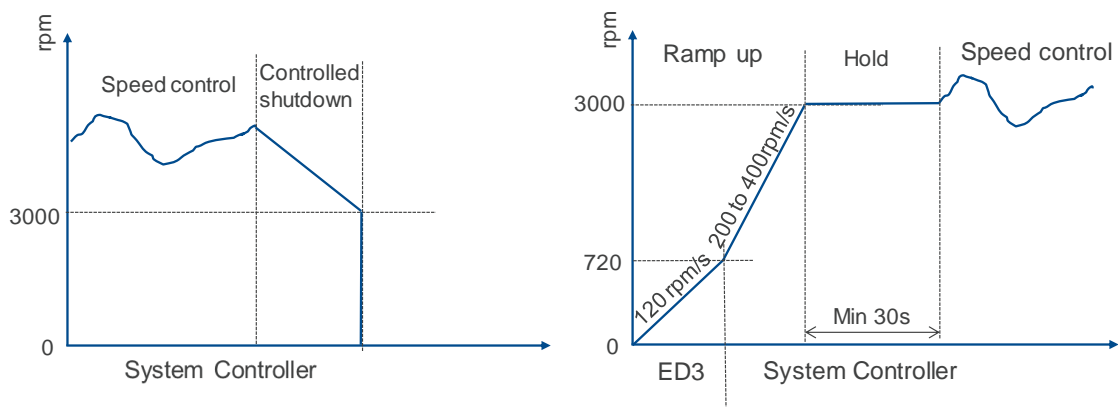

Figure 8: Ramp-up and controlled shutdown
- At start-up the system should be able to bring the compressor to a point inside the envelope as fast as possible and to keep the compressor running there. Running outside the envelope is not allowed. Emerson's recommendation is to start with a speed of 3000 rpm and to freeze the speed for minimum 30 seconds or longer until the system is in stable operation – see **Figure 8** "Ramp up".
- To stop the compressor, reduce the speed to 3000 rpm then stop the compressor – see **Figure 8** "Controlled shutdown".